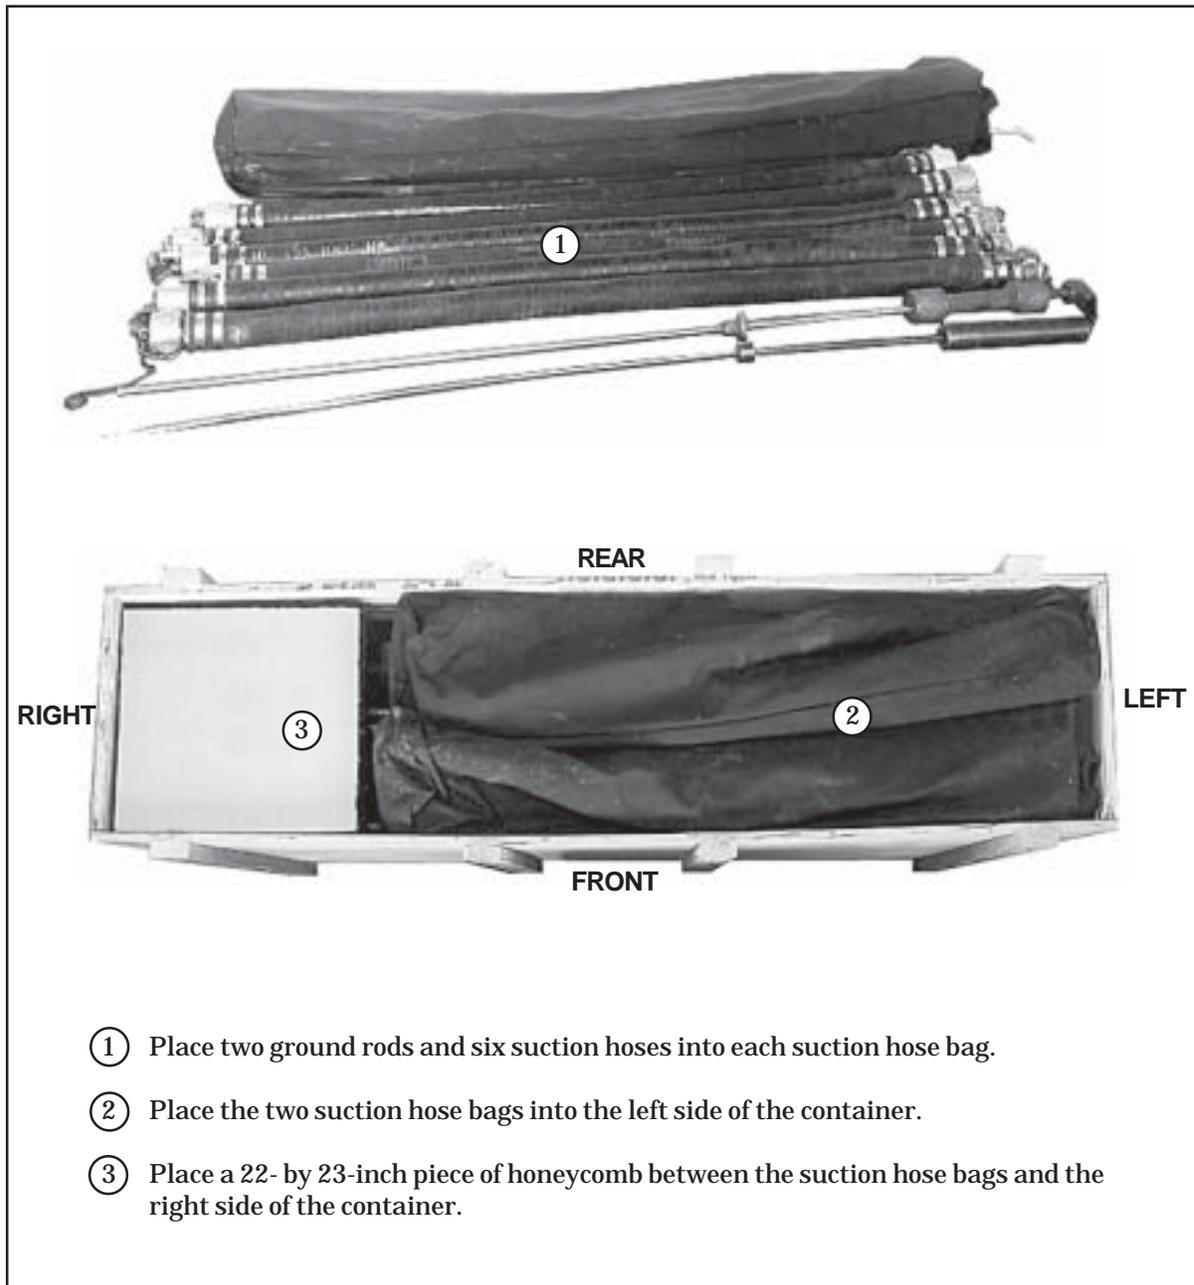

Figure 1-12. Ground Rods, Suction Hoses, and Bags Prepared and Stowed
- e. **PREPARING AND STOWING GROUND RODS, SUCTION HOSES, AND SUCTION HOSE BAGS.** Prepare the ground rods, suction hoses, and suction hose bags for stowing. Stow the suction hose bags in the container as shown in Figure 1-12.